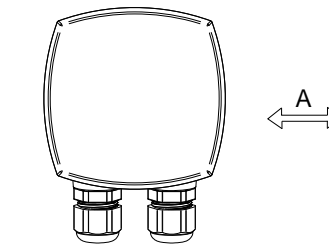

Figure 1 Installation direction in duct (A = air flow direction)
- Place the DTTHC transmitter in the duct with the cable glands perpendicular to the air flow direction, see *Figure 1*.